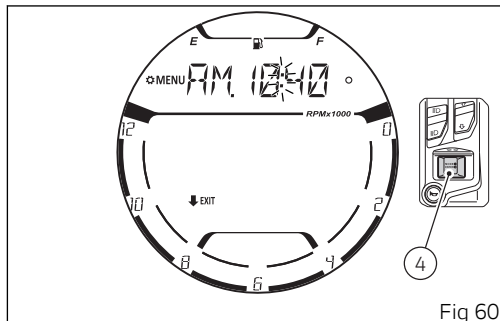

Fig 60
Press button (4) to end the flashing of the minutes and exit the setting mode. Now the instrument panel indicates the time just set (Fig 60).